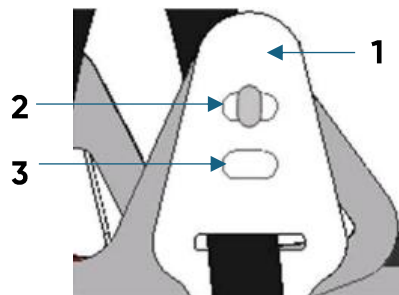

Fig. 2
The helmet features a two-position wearing height adjustment (Fig. 2). After putting on the helmet, ensure that the suspension straps are correctly set for the head height. By default, the harness anchors (1) are fitted in the shallow position (2). To change the wearing height, fit the four harness anchors into the deep position (3).